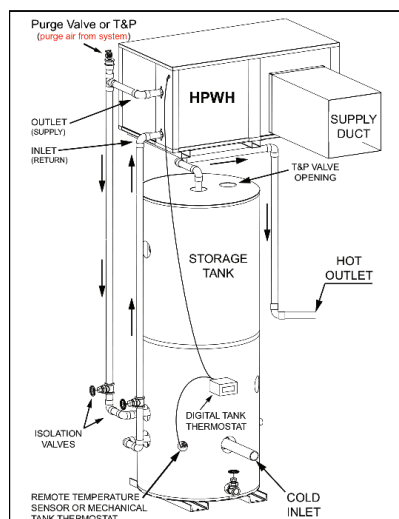
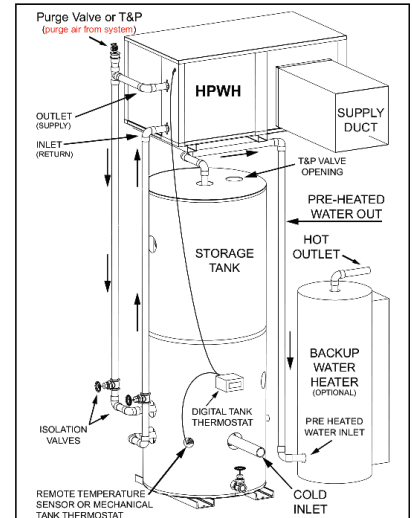

FIGURE 7
FIGURE 8
Water piping must be installed in accordance with the instructions in this manual and all local plumbing codes having jurisdiction. See Figure 7 and Figure 8 on page 16 and the Piping Diagrams on page 34 as a reference for these instructions.
4. The cold water supply must be connected directly to the storage tank at a low connection port on the storage tank on single tank and two tank preheat piping configurations for optimal efficiency. See Figure 7 and Figure 8 on page 16.
15. When the HPWH unit is installed above the storage tank install a Tee fitting at a high point in the outlet water line leaving the unit. Install a purge valve, or if required by local code, a T&P valve (temperature and pressure relief) in a branch of the Tee fitting that can be used to purge air from the HPWH unit during start up. See Figure 7 and Figure 8.
The HPWH must be plumbed to storage tank. The maximum stored water temperature the HPWH unit can produce in the storage tank is 150°F (66°C). Figure 7 shows a typical storage tank piping configuration. Tank ports must be large enough to handle
When water temperatures above 150°F (66°C) are required the HPWH and storage tank are piped in series (upstream) with a backup water heater. See Water Temperature on page 9. The backup water heater will raise the temperature of the preheated water to the final system temperature required. Figure 8 shows a typical preheat piping configuration.